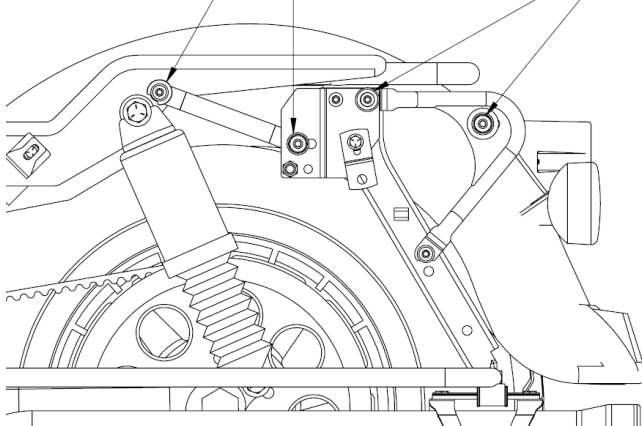
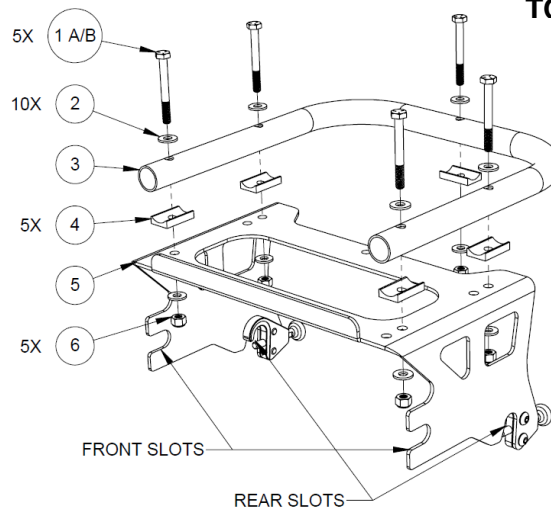

FIGURE 1, AVAILABLE DOCKING KITS (LEFT SIDE SHOWN)
FIGURE 3, TOUR PACK MOUNT COMPONENTS (TOUR PACK NOT SHOWN)
NOTE: See **FIGURE 1**. This Cobra Detachable Tour Pack Mount (P/N 602-2700) is compatible with both the Cobra rear docking kit (P/N 602-2103) and the Harley-Davidson rear docking kit (P/N 53804-06).
1. See **TABLE 1**. Check the fitment of the Tour Pack mount (5) on the bike, attaching it by following steps #6-8 below. The front and rear slots (indicated in **FIGURE 3**) of the Tour Pack mount (5) should fully engage with the plastic bushings, on both sides of the bike, on both the rear and front mounting bushings (indicated in **FIGURE 1**) for the rear docking kit. If any do not, loosen any hardware necessary in order to adjust the locations for the mounting bushings for the rear docking kit until the slots fully and securely engage with them. **Re-torque** any loosened hardware to their specified torques, then detach the Tour Pack from the bike.
2. See **TABLE 1**. Starting with the rear center hole of the Tour Pack, slide five ¼-20 hex head bolts (1A or 1B depending on Tour Pack, see **TABLE 1**), with one ¼" I.D. washer (2) each, through the five holes in the Tour Pack (not shown in **FIGURE 3**), the matching holes in the Tour-Pack support tube (3), one aluminum tube spacer (4) each, and the Tour Pack mount (5) as shown in **FIGURE 3**.
3. See **TABLE 1**. Secure each bolt with a ¼" I.D. washer (2) and ¼-20 nylon locknut (6) on the underside of the Tour Pack mount (5) as indicated in **FIGURE 3**, but **DO NOT TIGHTEN** at this time.
6. Slide the front slots (indicated in **FIGURE 3**) of the Tour Pack mount (5) into the front mounting bushing of the rear docking kit (indicated in **FIGURE 1**). Make sure to insert the front slots all the way onto the bushings.
7. Slowly rotate the rack downward until the rear slots (indicated in **FIGURE 3**) slip over the rear mounting kit bushings (indicated in **FIGURE 1**).